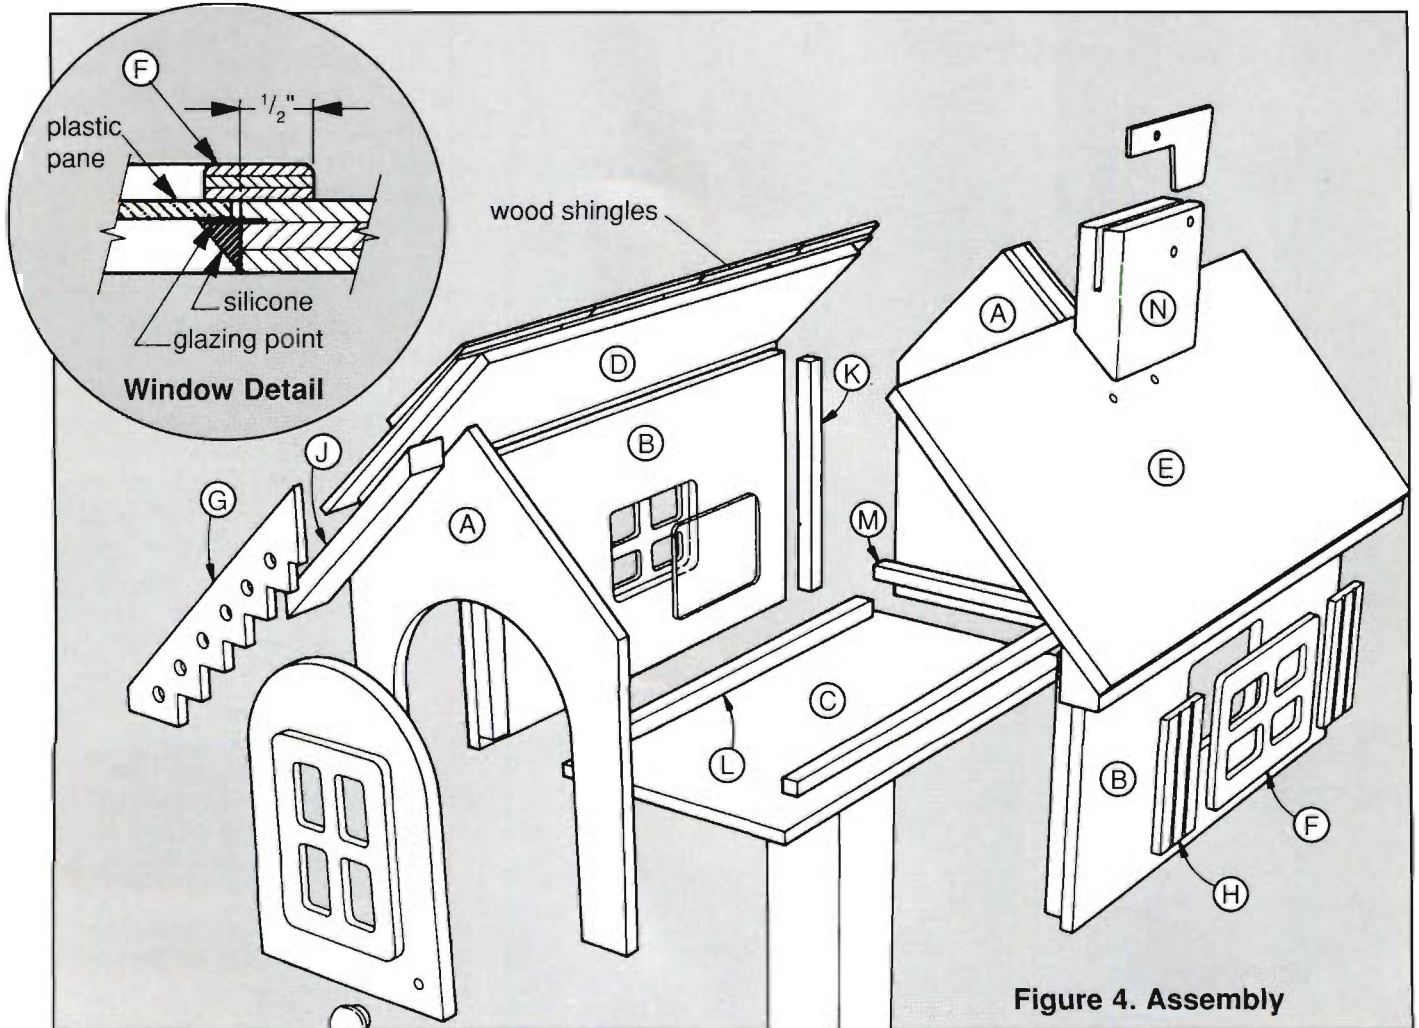

Figure 4. Assembly
cleats and cornice pieces to the sides and bottom as shown in Figure 4. With waterproof glue and wire brads, secure two side cleats (K) to the inner surface of each side. Glue and nail the bottom and rear cleats (L and M) to the bottom. Position the bottom cleats so they won't interfere with the side cleats when you join the sides and bottom. Glue and nail two end cornices (J) to the outside surfaces of the front and back.
Begin the roof assembly by attaching the flag to the chimney with the pivot screw; then drive in a second screw in order to limit flag travel. Locate the chimney position on the right roof panel and attach it with two screws. Now glue and nail the right roof panel to the box assembly, and then attach the left roof panel. Apply the bargeboard trim (G) to the front and rear cornices with nails and glue. Locate the shutters (H) adjacent to the side windows as shown in Figure 4, and glue and nail them in place, too. Finally, countersink all nail heads and fill with wood filler; sand edges and surfaces smooth in preparation for finishing.